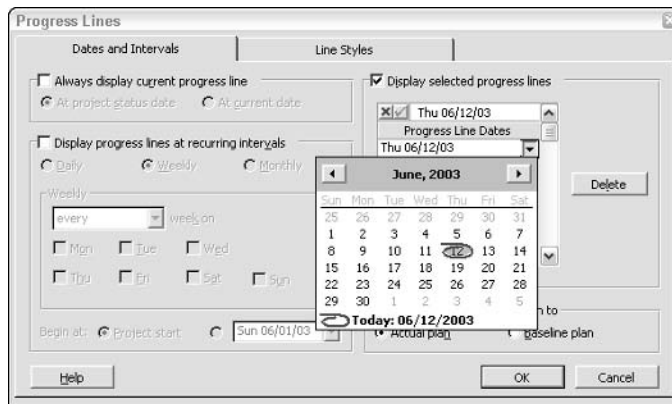

Figure 12-23: The Dates and Intervals tab of the Progress Lines dialog box.
5. Click the list box arrow, and a small calendar appears, as shown in Figure 12-23.
As you can imagine, a progress line on a project with a large number of tasks can begin to look messy. But if you decide that you like progress lines, you can display them at varying intervals, as shown previously in Figure 12-23. You also can add specific dates to the Progress Line Dates list on the right side of the Progress Lines dialog box to display multiple progress lines on the Gantt Chart. If you decide to display more than one progress line, you may want to use the Line Styles tab of the